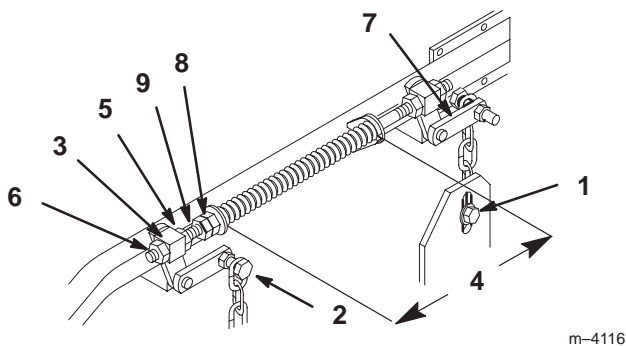

Figure 50
4. Raise the deck to the transport position (Fig. 49). Take force off of the two large deck lift springs by loosening the jam nut and front spring nut, in front of each spring, as far as possible (Fig. 50).
- Loosen the bottom chain bolt in the slot at the rear of the deck. Repeat for the opposite side (Fig. 50).
- Loosen the front and rear locking nut on either side of the front swivel. Loosen until the front chains are loose and the deck is supported by blocks. Repeat for the opposite side (Fig. 50).
- When the hardware is loosened, the remaining tension in the large support springs will tend to rotate the deck lift handle up, out of the 1-1/2 in. (38 mm) position. Press down on the rear deck support arm to firmly return the deck lift handle to the 1-1/2 in. (38 mm) position (Fig. 50).
- While continuing to press down on the rear deck support arm, take the slack out of the rear chain and tighten the hardware at the bottom (Fig. 50). Downward pressure may now be released. Repeat for the opposite side.
- Adjust the compression springs by turning the front spring nuts so that the distance between the two large washers is 10-1/4 in. (260 mm); then tighten the jam nut (Fig. 50).